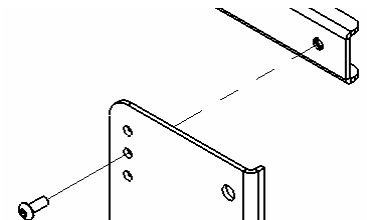

Figure 4
2. Using four 10-24 button head cap screws, attach top and bottom to side brackets (see Figure 4).